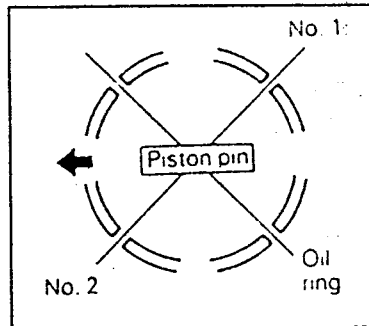

Fig. 15.19. — Correct arrangement of the piston ring gaps.
- Arrange the piston ring gaps in accordance with Fig. 15.19 on the circumference of the piston skirt. Make sure the "Front" mark points to the front of the engine.